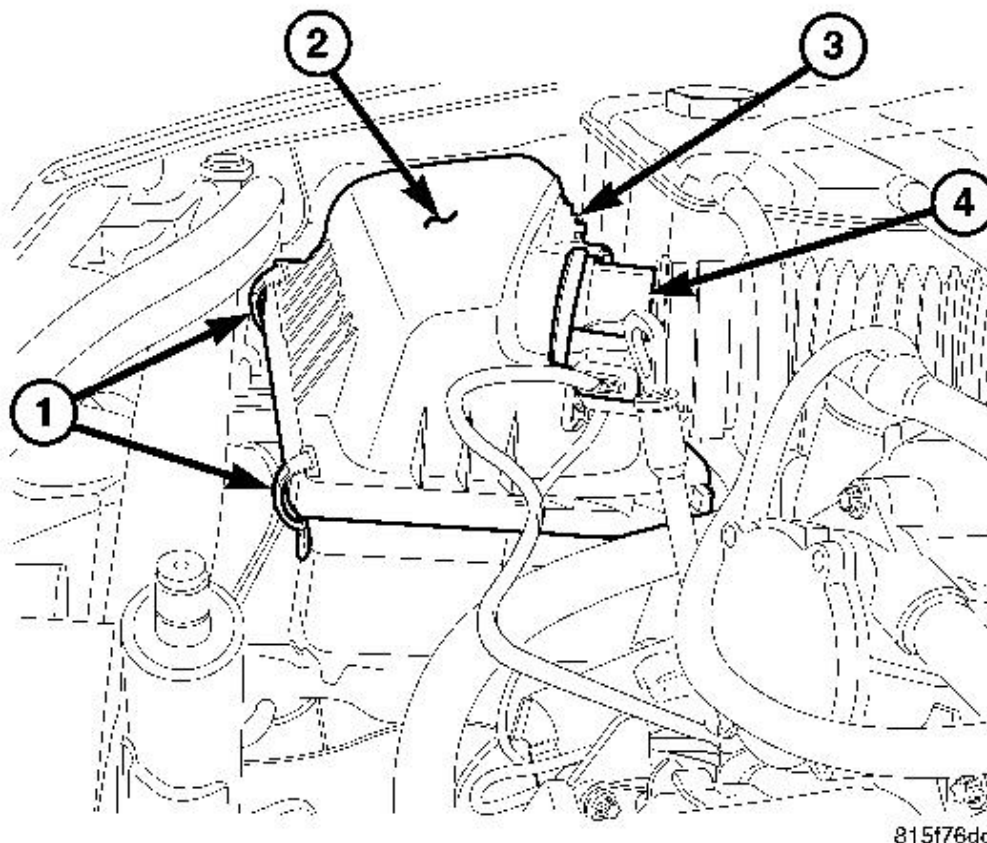

Fig. 54: Air Cleaner Cover And Components
3. Pry up spring clips (1) and lock cover to housing. See **Fig. 54**.
5. Connect the MAF (4) and air pressure sensor (3) electrical connectors.